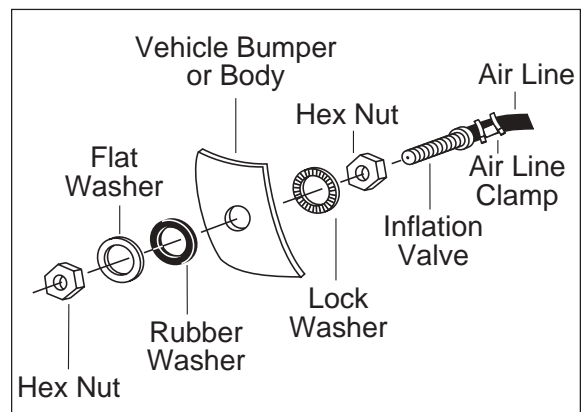

Figure 11
- j. Drill a $\frac{5}{16}$ " hole for inflation valve and mount as in illustration (Figure 11). Rubber washer is for outside weather seal.
- g. Drill $\frac{5}{16}$ " hole for inflating valves and mount as illustrated. Rubber washer is for outside weather seal (Figure 11).